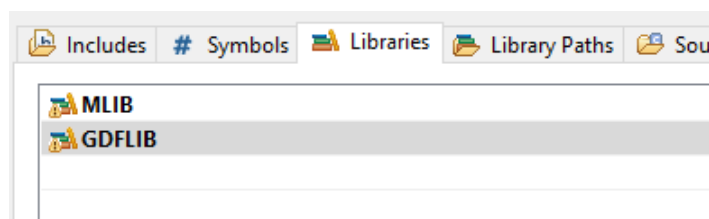

Figure 1-9. Libraries
9. After adding the library paths, add the library files. Click the Libraries tab. See Figure 1-9.
14. Click OK, and you will see the libraries added in the list. See Figure 1-9.